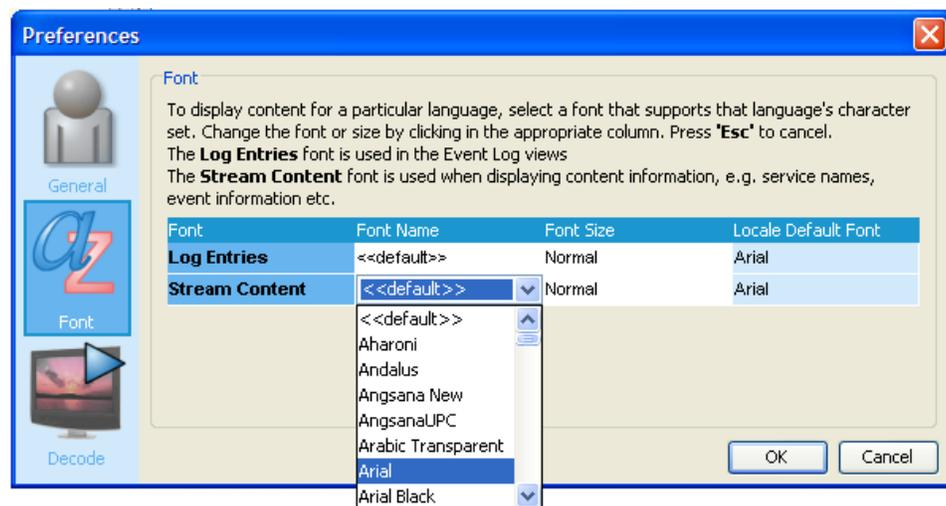

Figure 21: Selecting a display font from the Preferences dialog box
2. Select Font at the left of the Preferences dialog box to display the window shown in Figure 21.